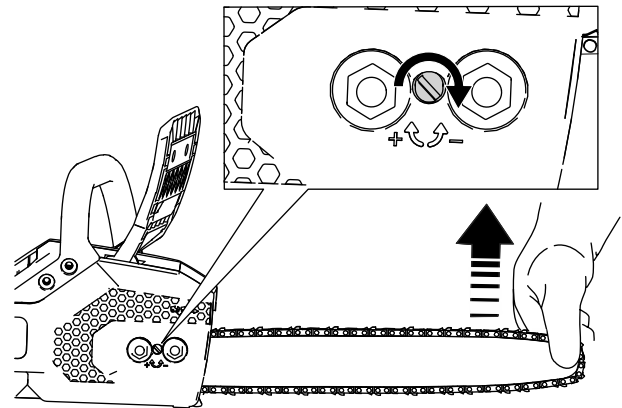

Figure 29
6. Hold up the tip of the guide bar (Figure 29).
- **To tighten the chain**, turn the chain tensioning screw clockwise (Figure 29).